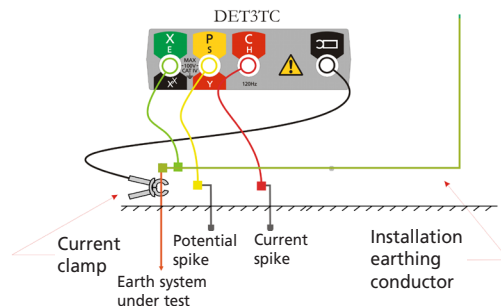

Figure 10: Connection for measuring three-terminal ground rod resistance
1. With the selector switch in the 'OFF' position, connect the instrument, as shown in Figure 10 and close the ICLAMP around the earthing conductor under test.